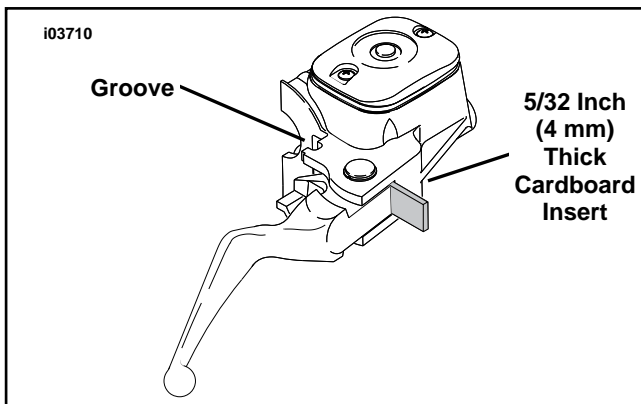

Figure 15. Install Cardboard Insert
52. See Figure 15. Place the cardboard insert between the brake lever and brake lever bracket.